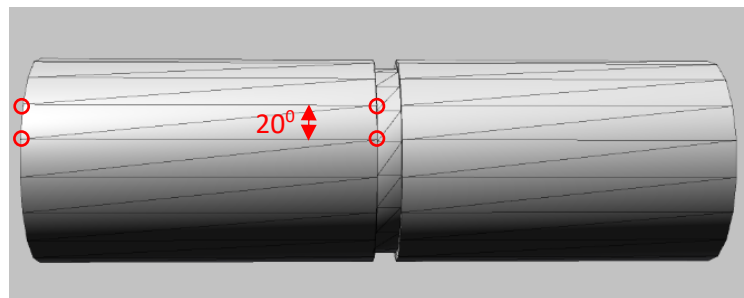

Figure 15
- 5) If after the first point from the cycle, then we make two triangles of 4 points, Figure 15.